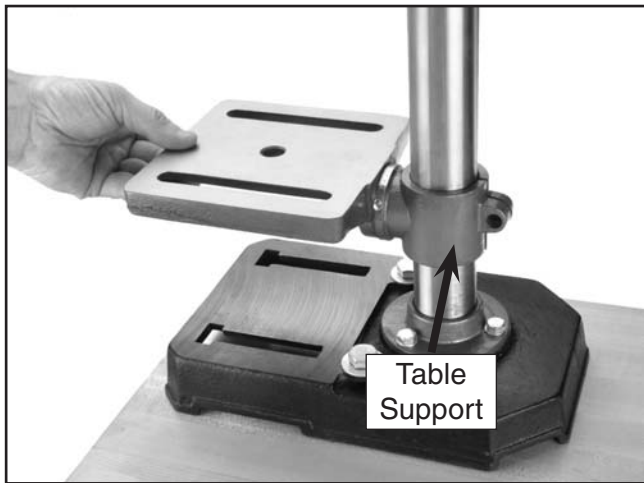

Figure 8. Installing table support.
1. Slide the table support assembly (**Figure 8**) down the column until it rests on the base.